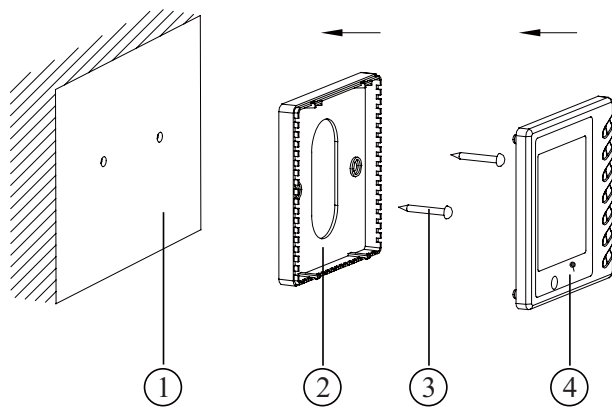

Fig.3.1.3
**Notice for installation under the guidance of Fig.3.1.3**
- ① . Cut off power supply before install the electrical components, it is forbidden to carry out the installation with power on;
- ② . Get one end of the 4 core communication cable, put it through the rectangular hole on the base board on the wire remote controller;
- ③ . Hold the base board of controller on the wall, then fix it to the wall with M4x25 screw;
- ④ . Plug the 4 core communication cable into the slot on the wired remote controller, then fix the controller panel with base board together;